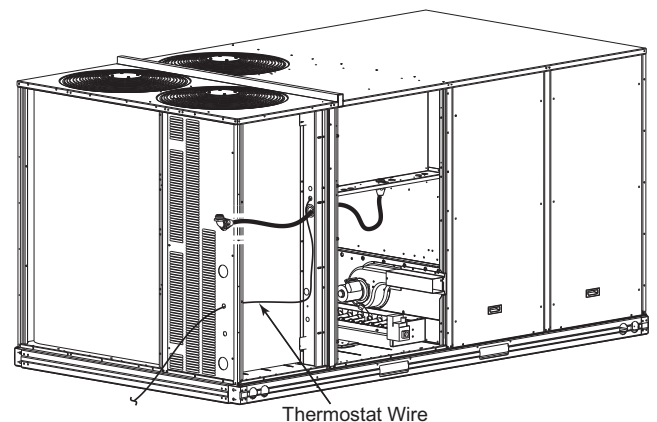

Fig. 45 — Thermostat Wire Routing
Pass the thermostat control wires through the bushing on the unit end panel. Route the wire through the snap-in wire tie and up to the web bushing near the control box. Route the wire through the bushing and into the bottom left side of the control box after removing one of the two knockouts in the corner of the box. Using a connector at the control box to protect the wire as it passes into the control box. Pull the wires over to the terminal strip at the upper left corner of the Central Terminal Board (CTB). Use the connector at the control box and the wire tie to take up any slack in the thermostat wire to ensure that it will not be damaged by contact with the condenser coil. See Fig. 45.
1. Route the humidistat 2-conductor cable (field-supplied) through the bushing in the unit's louvered end panel (see Fig. 45).
4. Use the connector and the wire tie to reduce any slack in the humidistat cable to ensure that it will not be damaged by contact with the condenser coil (see Fig. 45).
1. Route the Thermidistat multi-conductor thermostat cable (field-supplied) through the bushing in the unit's louvered end panel (see Fig. 45).
4. Use the connector and the wire tie to reduce any slack in the thermostat cable to ensure that it will not be damaged by contact with the condenser coil (see Fig. 45).